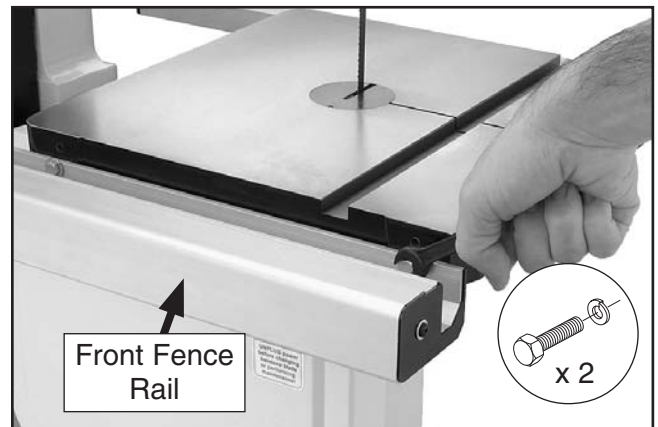

Figure 17. Installing front fence rail.
- Attach the front fence rail shown in **Figure 17**, with (2) 1/4"-20 x 3/4" hex bolts and 1/4" flat washers.